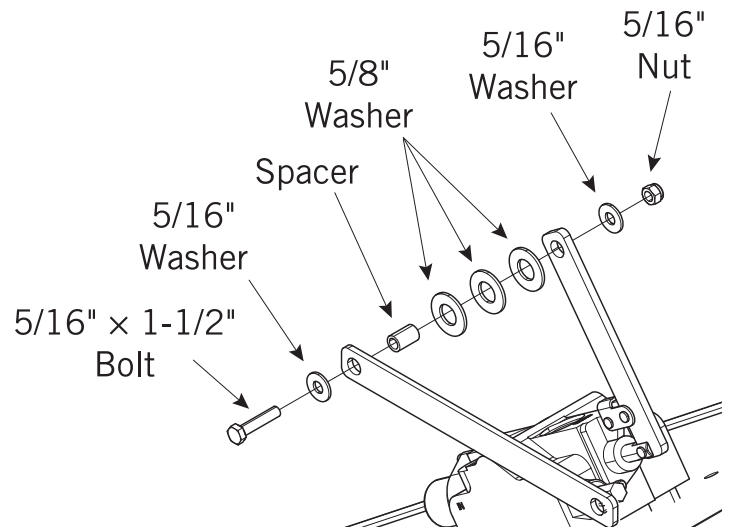

Figure 2.3.2, Connecting Valve Control Lever
4. Attach the valve control lever according to Figure 2.3.2.